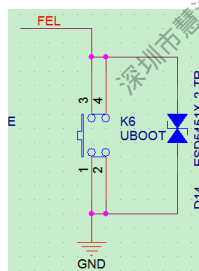

Figure 2-52 UBOOT Key
- The UBOOT button is used for the hardware trigger to download software. Please decide whether to reserve it according to the product requirements. As shown in Figure 2-52.